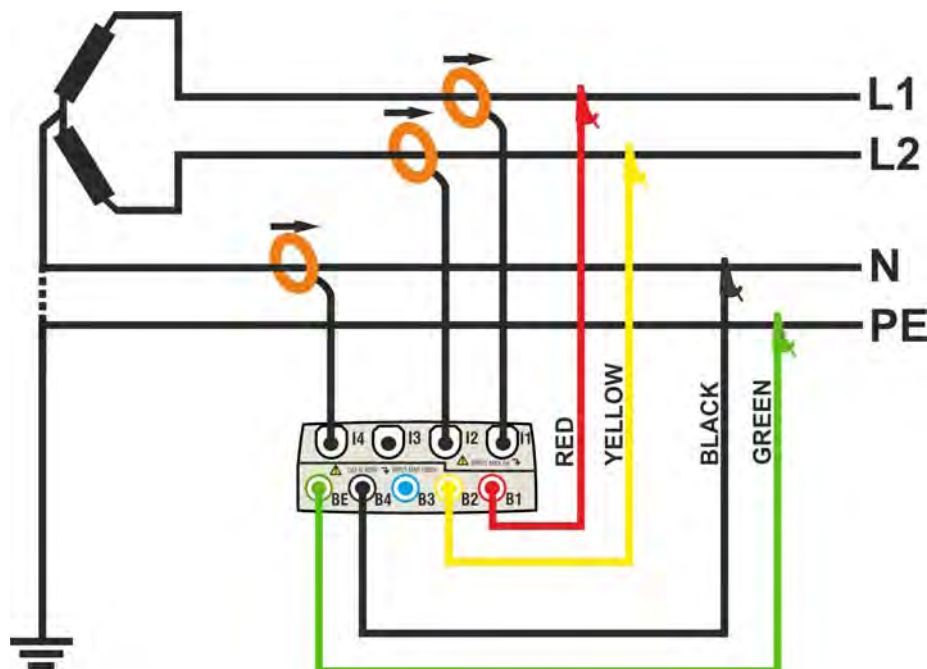

Fig. 143: Meter connection in a two phase 3-wire 3P2E system – ENG\_UK type
2. Connect voltage test leads on Phases L1, L2, N and PE cables considering the colours as shown in Fig. 143
3. Connect the transducer current clamps on Phase L1, L2, N cables as shown in Fig. 143 respecting the clamp's arrow direction indicating the current standard sequence from generator to load. **On Real Time Values' section screens (selecting a 3 wire system preliminarily) always verify the positive value of Active Power and the power factor relative to load which should be normally inductive before starting a recording.** Reverse the clamp by 180 degrees on cables in case of negative readings.